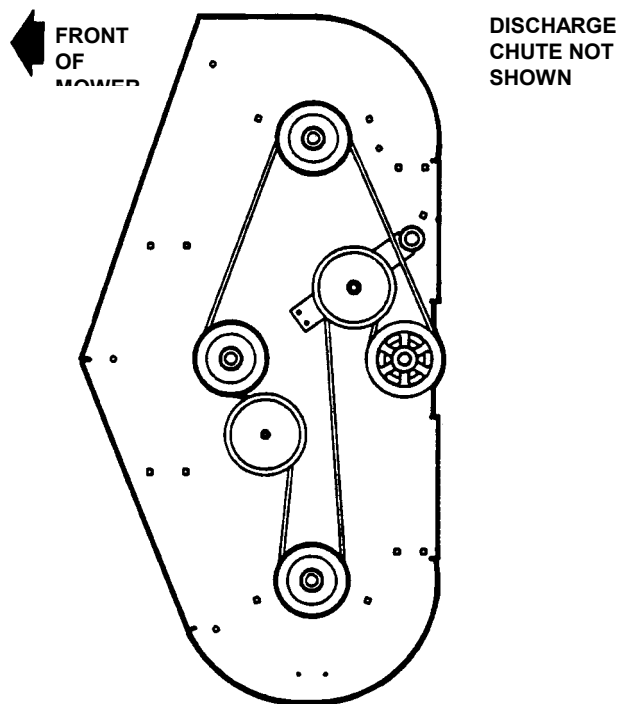

FIGURE 5.8
1. Route belt around blade pulleys and idler pulley in the same position as old belt was removed. It may be necessary to use a pry bar to pull idler pulley back to install belt. See Figure 5.8.